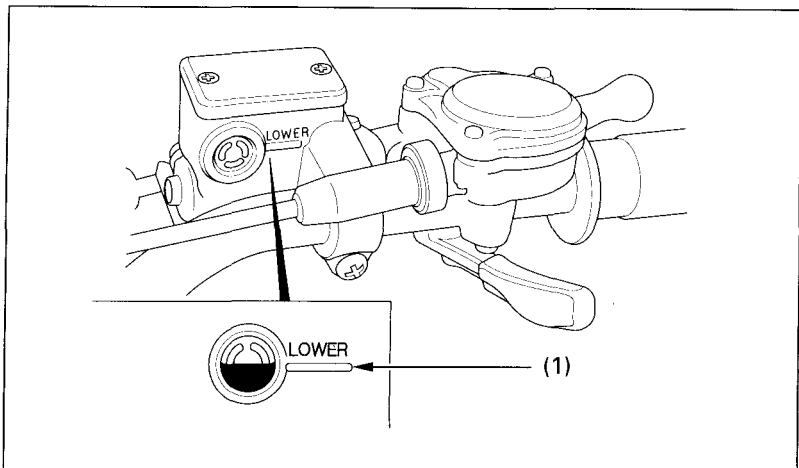

Fig. 4-25
Brake fluid must be added to the reservoir (Fig. 4-25) whenever the fluid level approaches the lower level mark (1). Use only DOT 3 or 4 brake fluid and have it added by an authorized Honda dealer.